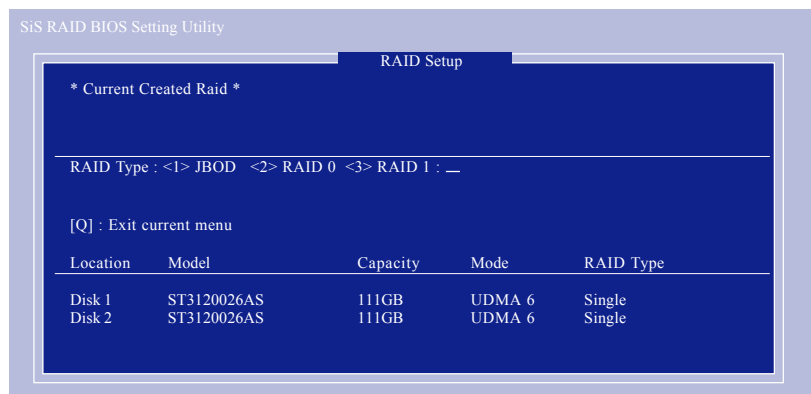

Figure 7
Then, use number keys 1~3 to select a RAID mode: (1)JBOD, (2)RAID 0, or (3)RAID 1 and then press ENTER (Figure 7). The following is an example of RAID 0 creation.